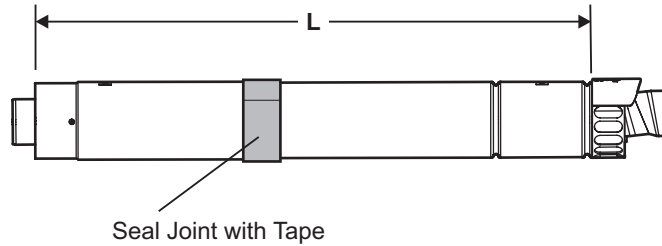

Fig. 4.7
- Determine the overall length (L) of flue required, (see Fig. 4.7) as follows:-
- Rear flue $L = \text{wall thickness (B)} + 60 \text{ mm (105 mm if the wall jig is used)}$
- Side flue $L = \text{wall thickness (B)} + \text{distance between boiler and wall (C)} + 145 \text{ mm}$